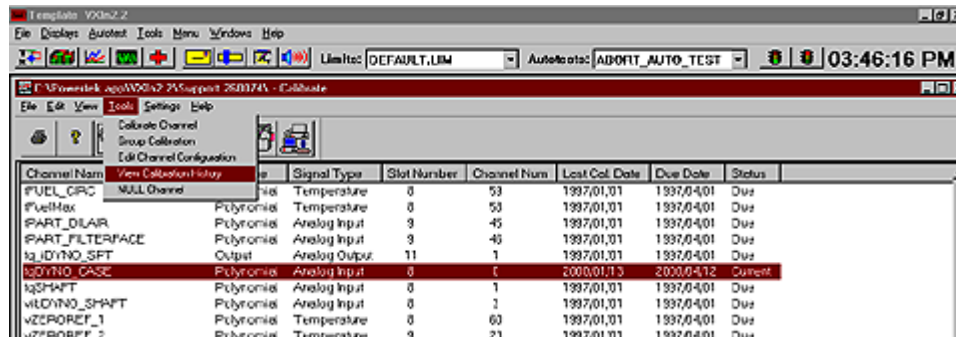

Figure 4
- 109 On the “Calibrate” screen, scroll up or down the “Channel Names” until “tqDYNO_CASE” appears. See Figure 4. Double click on “tqDYNO_CASE”.